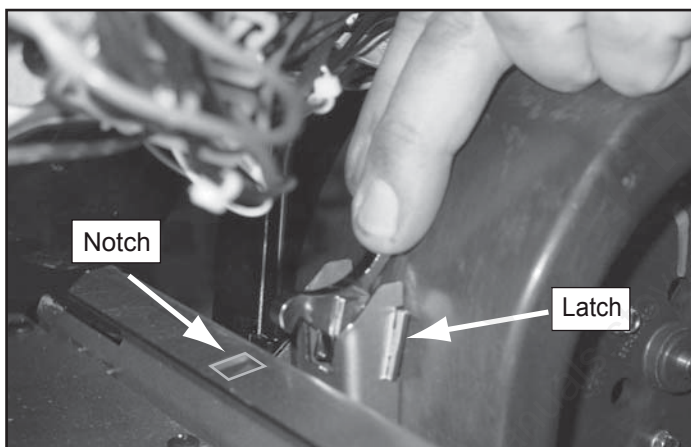

Figure 42.1
1. After the sides are removed, reach behind the blower and release the latch by pushing the top of the latch towards the blower. **Figure 42.1.**